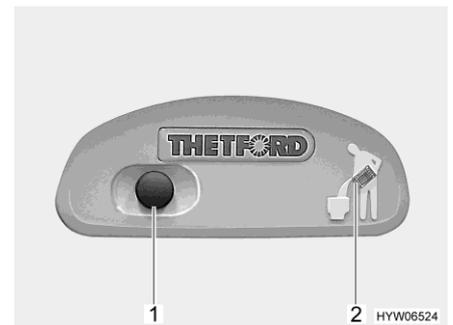

Fig. 181 Flush button/indicator lamp Thetford toilet
- For flushing, press the blue flush button (Fig. 181,1).
The indicator lamp (Fig. 181,2) lights up whenever the Thetford cassette has to be emptied.